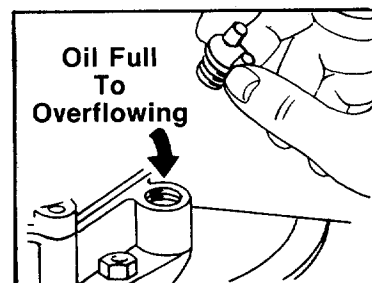

FIGURE 10.
**CHANGE OIL** after first 5 hours of operation. Thereafter change every 25 hours. Change oil while engine is warm. Oil may be drained thru drain on bottom of engine. To drain completely, always place engine level when draining thru the bottom. Oil capacity 1-1/4 pints. See figure 10.